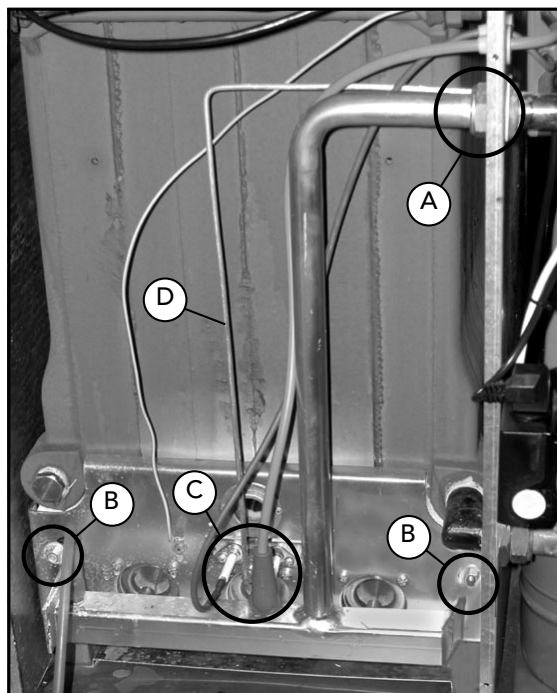

fig. 13
- unscrew the two nuts **B** fixing the combustion chamber door to the cast iron elements of the boiler (fig. 13)